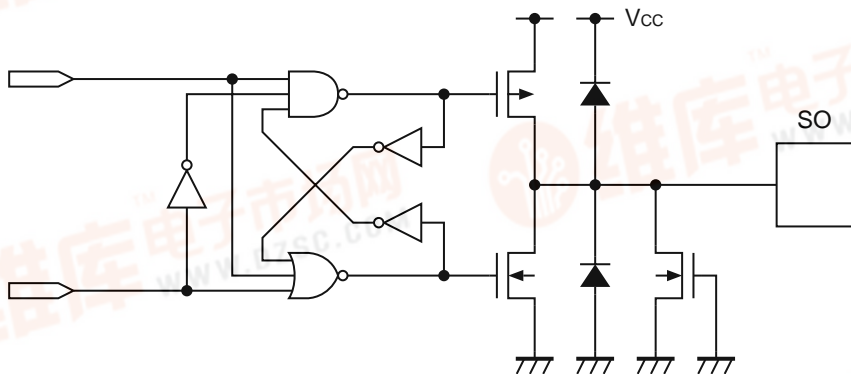

Figure 25 SO Pin
**Figure 25** shows the equivalent circuit of the output pin. This pin has the tri-state output of "H" level/"L" level/high impedance.